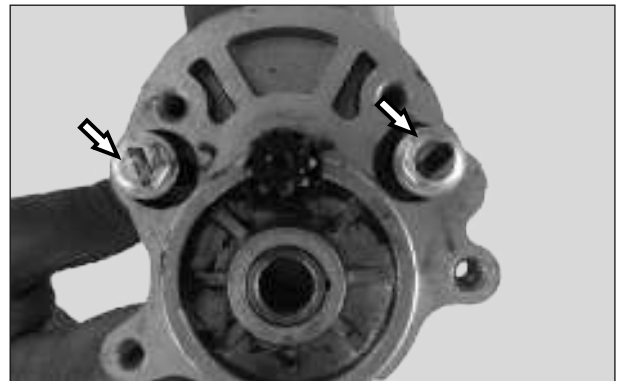

Fig. 6.40
- Loosen and remove the 2 nos. Hexagonal flange through bolt from the Inter bracket assembly. (Fig. 6.40)